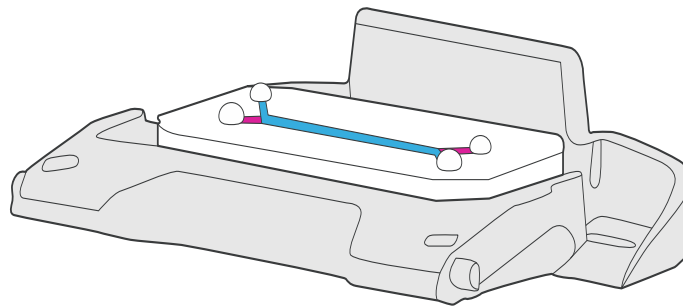

Figure 5. Chip in the chip carrier with small droplets of ECM solution at the ports
4. Introduce the epithelial ECM solution through the epithelial channel inlet, leaving small droplets of excess ECM solution on both ports for both channels (See Figure 5).